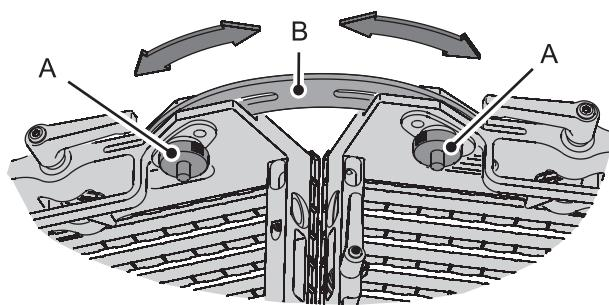

Figure 2: Locking panel angles in a curved array
4. See Figure 2. Install the thumbwheels **A** supplied in the kit on the top and bottom profiles of each panel, using the supplied locknuts to secure them in place so that they will not drop out of the panel if loosened too much.